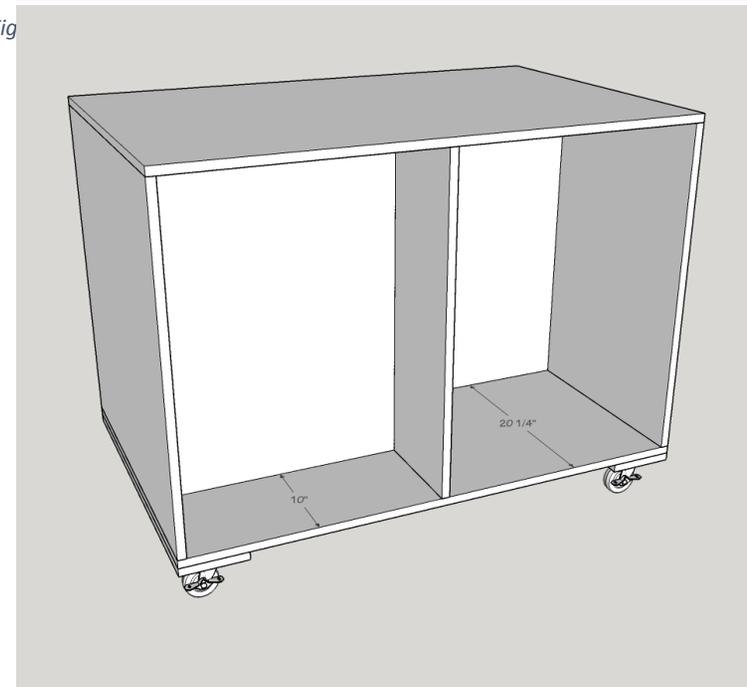

Figure 2: Storage Offsets
2. Drill six (6) pocket holes into each panel, as follows:
3. Using glue and pocket-hole screws, assemble panels (A) and (B)
- Reference Figure 2 for the offsets I used for the (B) panels
4. Using glue and pocket-hole screws, assemble the top surface (panel C) to the (A) panels from the prior step.
6. Using glue and 1" wood screws, fasten panels (D) to the bottom surface – ensure the screws will not interfere with the intended caster mount points.